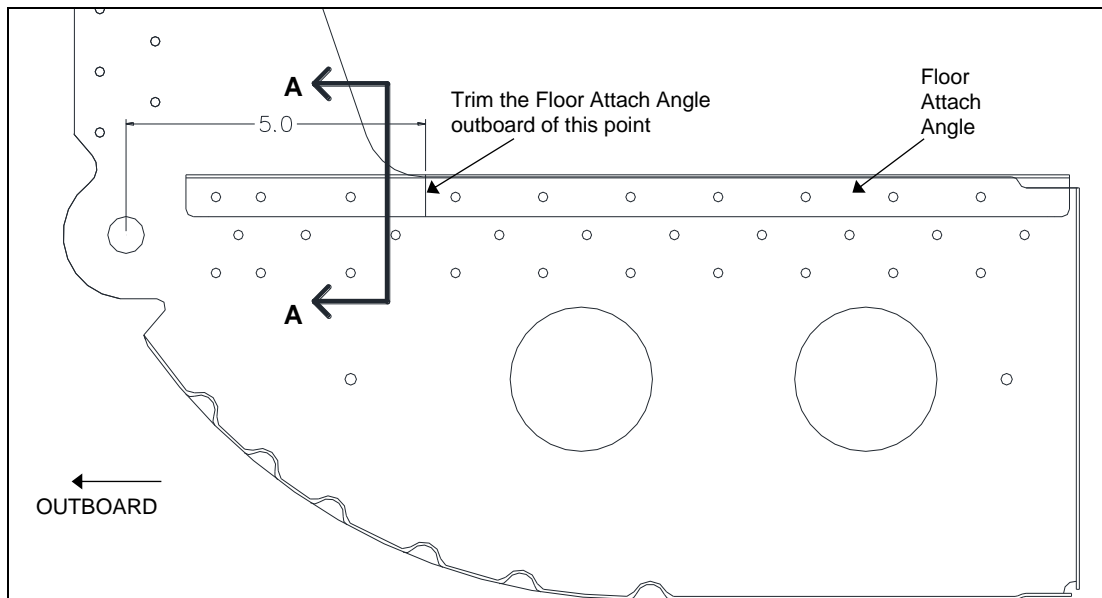
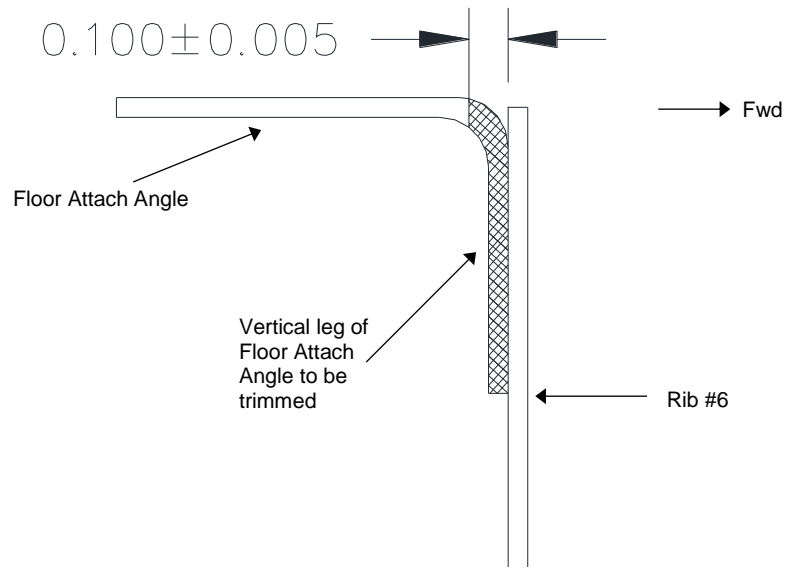

Figure 34: Trimming of Floor Attach Angle.
Figure 35: Section A-A. Trimming of Floor Attach Angle - Side view of Rib #6.
- 1) Trim away $0.100'' \pm 0.005''$ on the outboard end of the vertical leg of the Floor Attach Angle (GA8-532021- 33/34) as shown in hatched area of Figure 35 for a length of $5.0'' \pm 0.100''$ inboard of the rib lug end bore (See Figures 34 and 35).